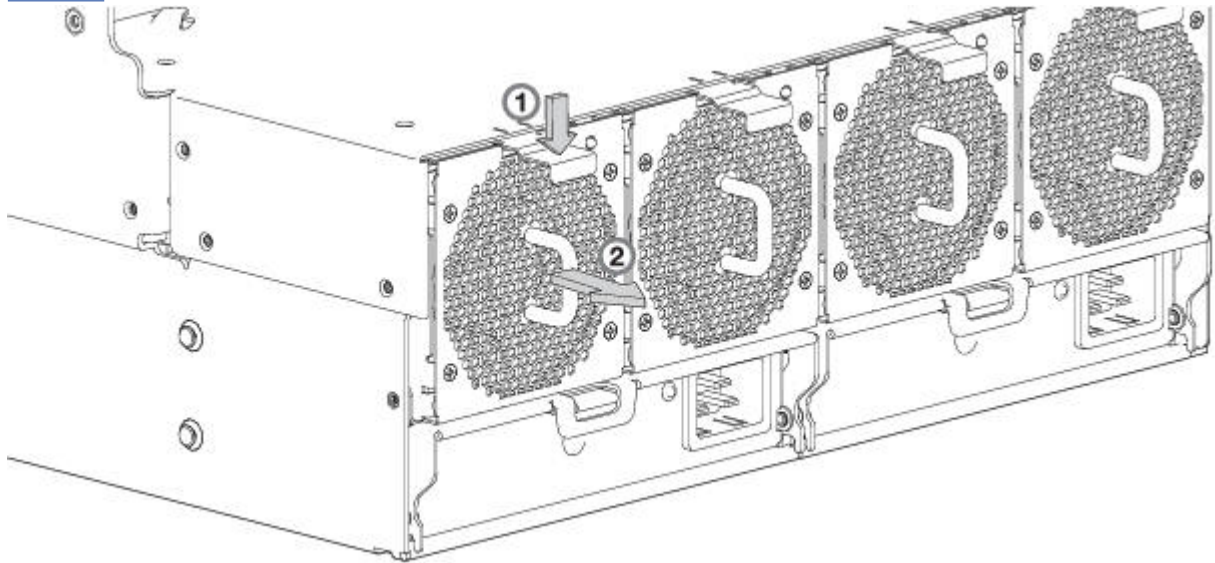
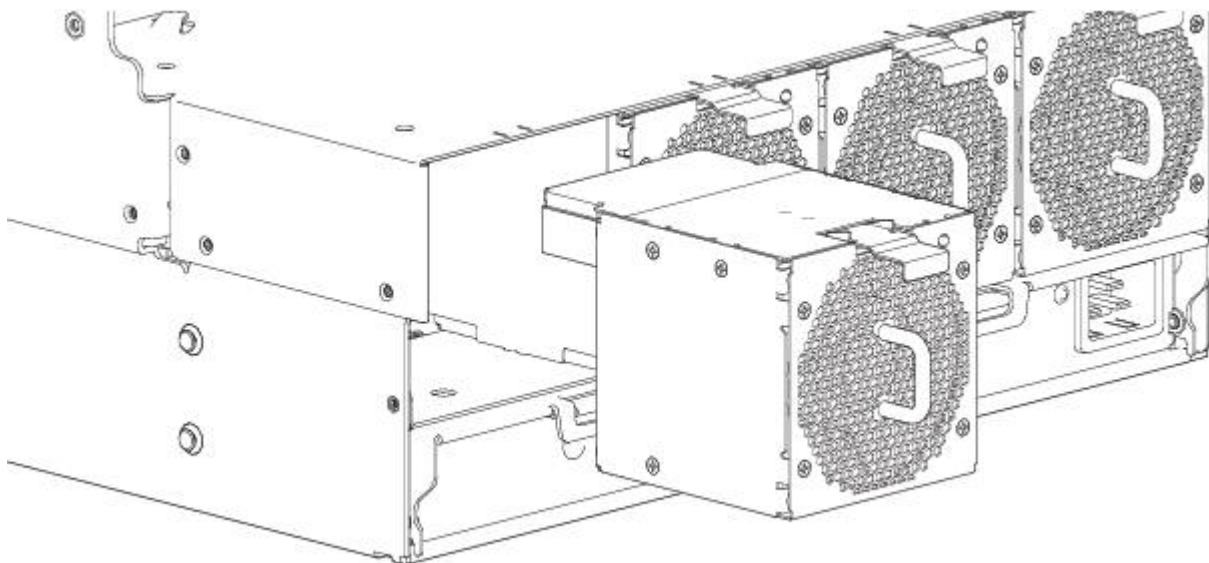

Figure 63. Removing a system fan (1 of 2)
Figure 64. Removing a system fan (2 of 2)
1. Press down on the latch tab to release the fan from its locked position. See detail No.1 in Figure 63 on page 71.
2. Grasp the fan module handle and carefully pull the fan out of its slot. See detail No.2 in Figure 64 on page 72.
Refer to Figure 63 on page 71 and Figure 64 on page 72 when performing this procedure, but ignore the directional arrow—since you will insert the module into the slot—rather than remove it.
2. Align the system fan module for insertion into its slot, as shown in Figure 64 on page 72.